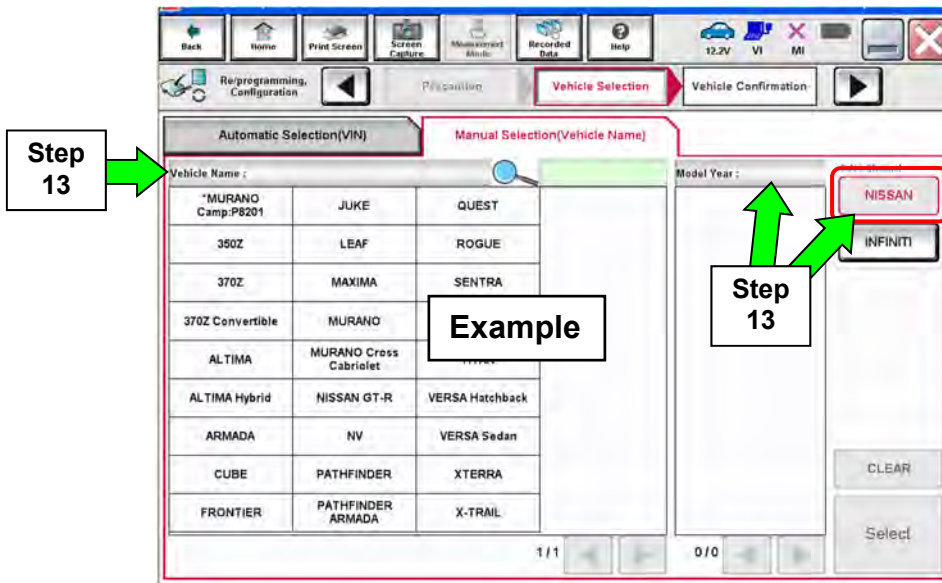

Figure 3
- If the screen in Figure 3 does not display, skip to step 14.